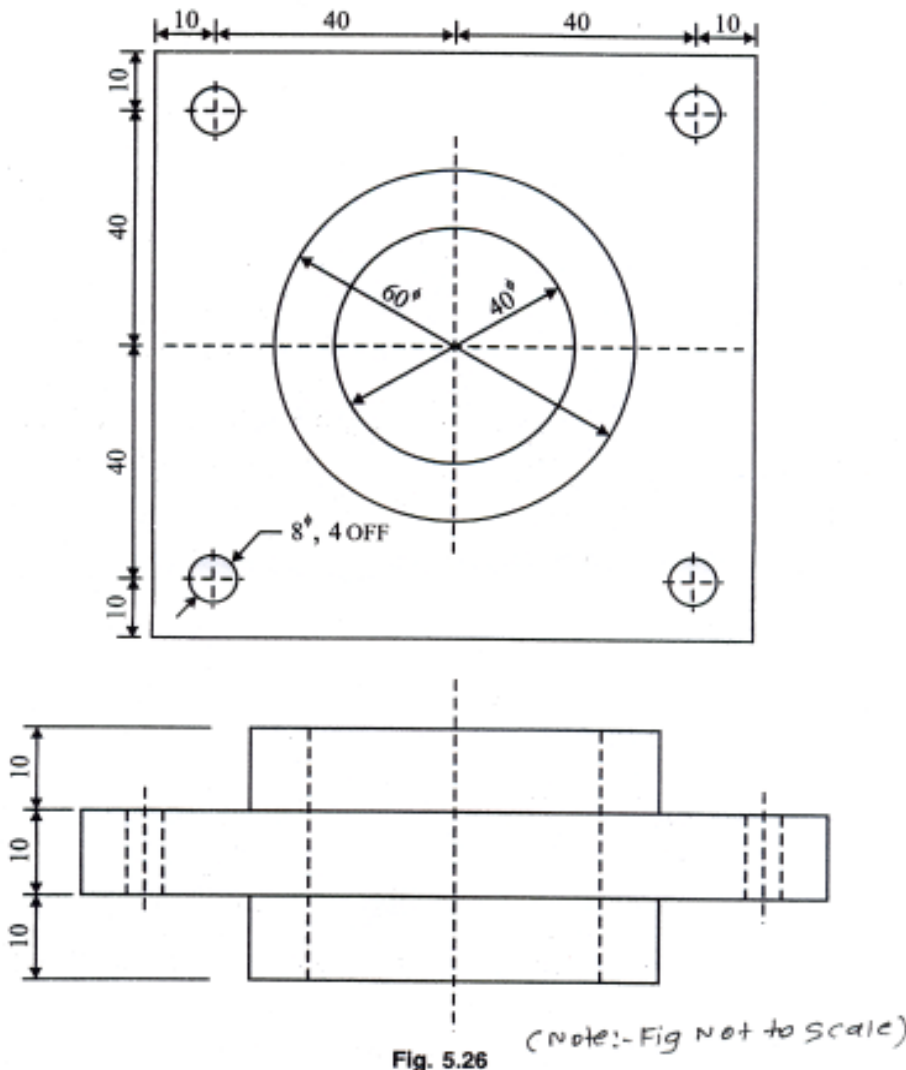

Fig. 5.26
3. Prepare a process plan machine to drill four 8 mm diameter holes and one 40 mm dia central hole for the component shown in fig. 5.26. 20 mm dia hole to be drilled first and then enlarged to 40 mm ϕ hole.